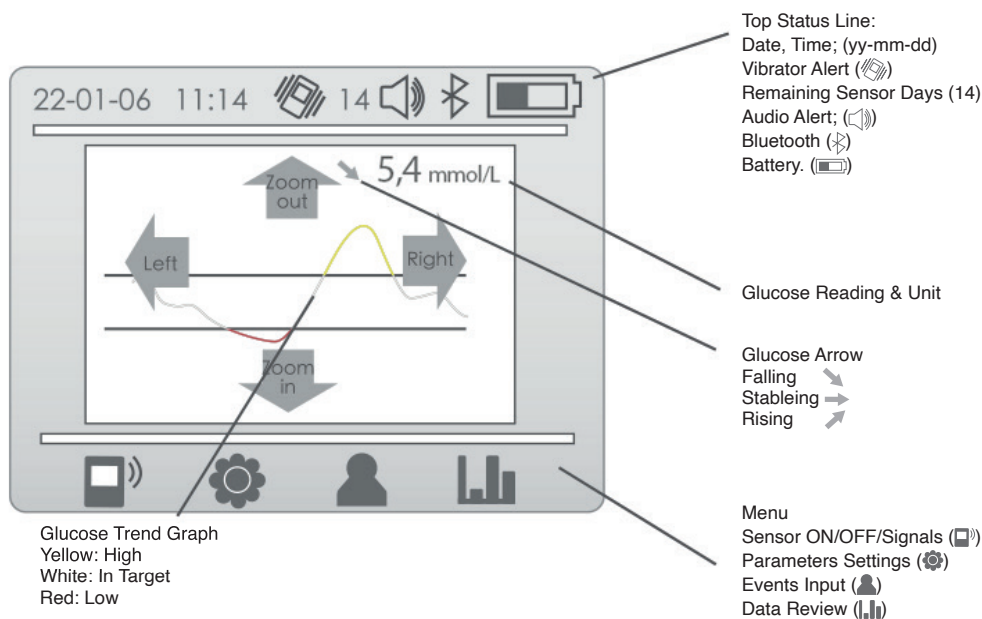

Figure 3. Receiver Display
2.5. Receiver Menu Description (Fig. 3):